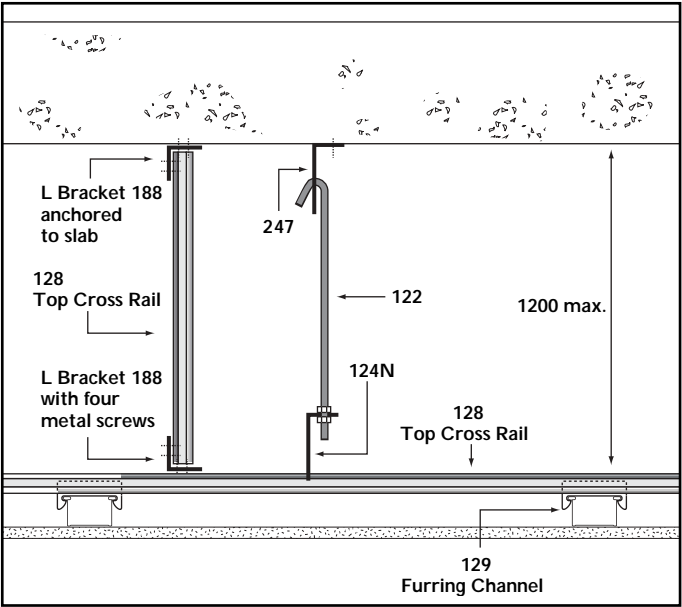

FIGURE 10: Downstrut Detail
When installing the Rondo Key-Lock suspended ceiling system in external applications, consideration should be given to wind pressure which may occur. For Downstrut details, refer to Figure 10.
1. The above table gives the limit state load capacity for various ceiling configurations. The direction of loading may be upward or downward, provided the ceiling is installed with downstrutting as per Figure 10.